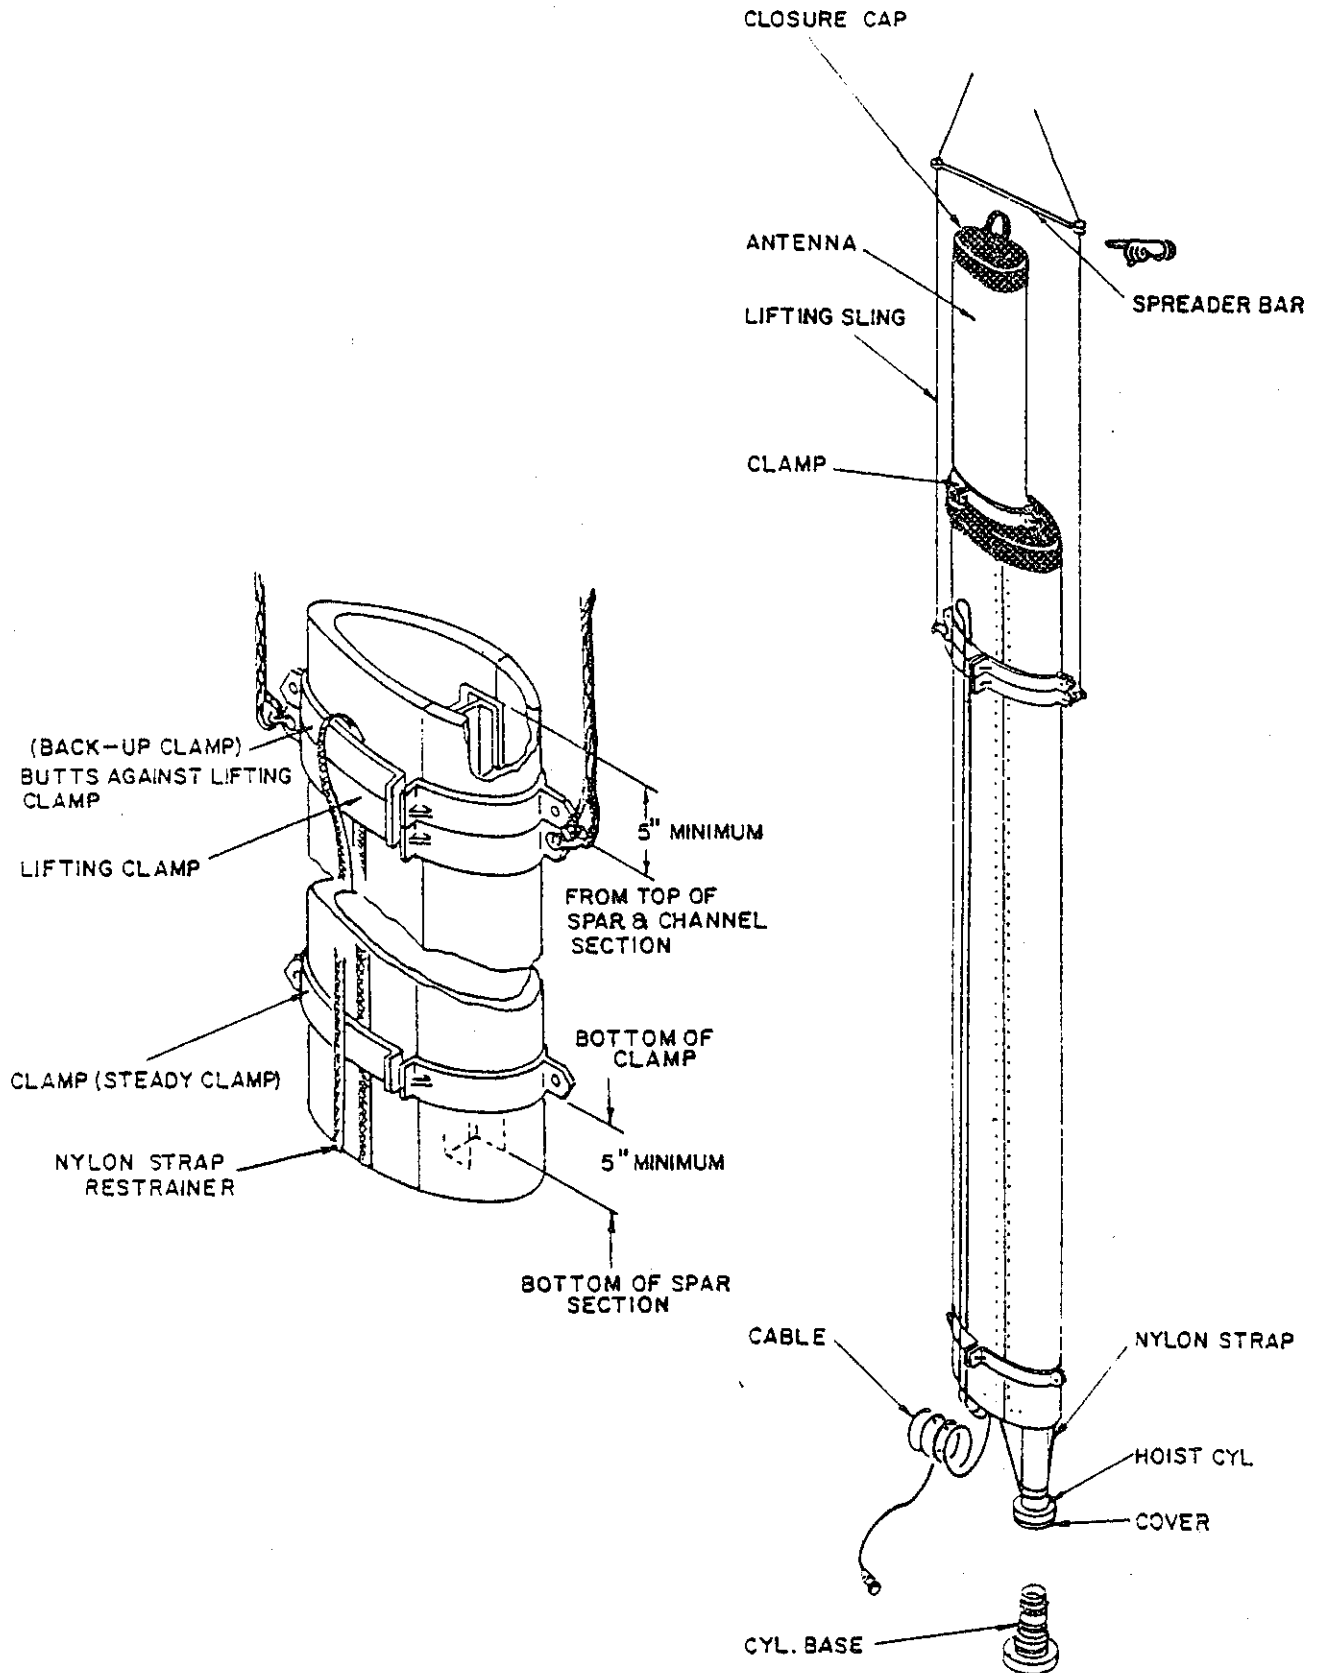

Figure 3-1. Safety Clamp Installation Instructions
- Step 3. Install lifting clamps on the faired mast. See Figure 3-1 and Ref. (11) for instructions.
- Step 4. Pull out the hoist cylinder 3 to 3-1/2 feet beyond the bottom edge of the faired mast. Install a clamp on the antenna (Ref. (1), Pc. 6) resting against the faired mast. This clamp prevents the cylinder from being retracted again.
- Step 5. Restrain the hoist cylinder from downward movement during lifting operations by making fast a nylon strap secured to the lower cylinder flange, (between flange and small pipe fittings). Secure free end to a suitable anchor point at base of the faired mast. See Figure 3-1.